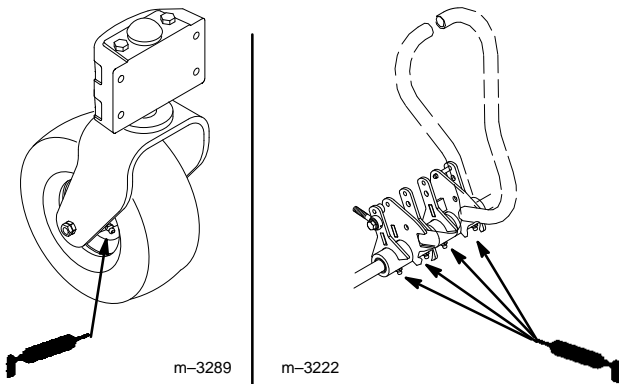

Figure 21
1. Lubricate the castor wheel bearings and motion control lever pivots until grease begins to ooze out of the bearings (Fig. 21).